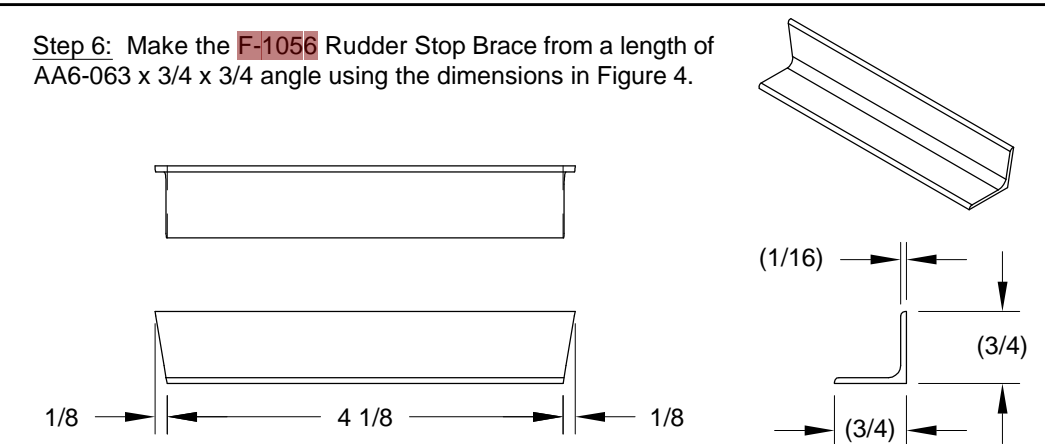

FIGURE 4: F-1056 RUDDER STOP BRACE
Step 6: Make the **F-1056** Rudder Stop Brace from a length of **AA6-063 x 3/4 x 3/4** angle using the dimensions in Figure 4.